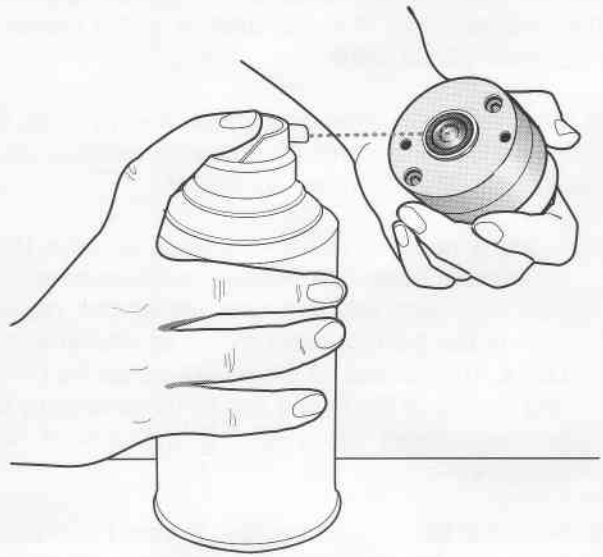

FIGURE 6
4. Using **BLOW CLEAN** (Wescor catalog number SS-026), or another source of *CLEAN* dry air, purge any residual droplets of liquid from the mount as shown in FIGURE 6. The **BLOW CLEAN** can should sit flat on the work surface as shown in the figure. If the can is tilted, liquid propellant may be discharged. The propellant will contaminate the thermocouple mount and is very difficult to remove. The nozzle should be aimed perpendicular to the mount surface and should be kept at least ¼" away from the thermocouple to avoid damaging it. This operation should be done in one short burst of 1 to 3 seconds duration. The purpose is to blow away the remaining droplets, not to dry them out.